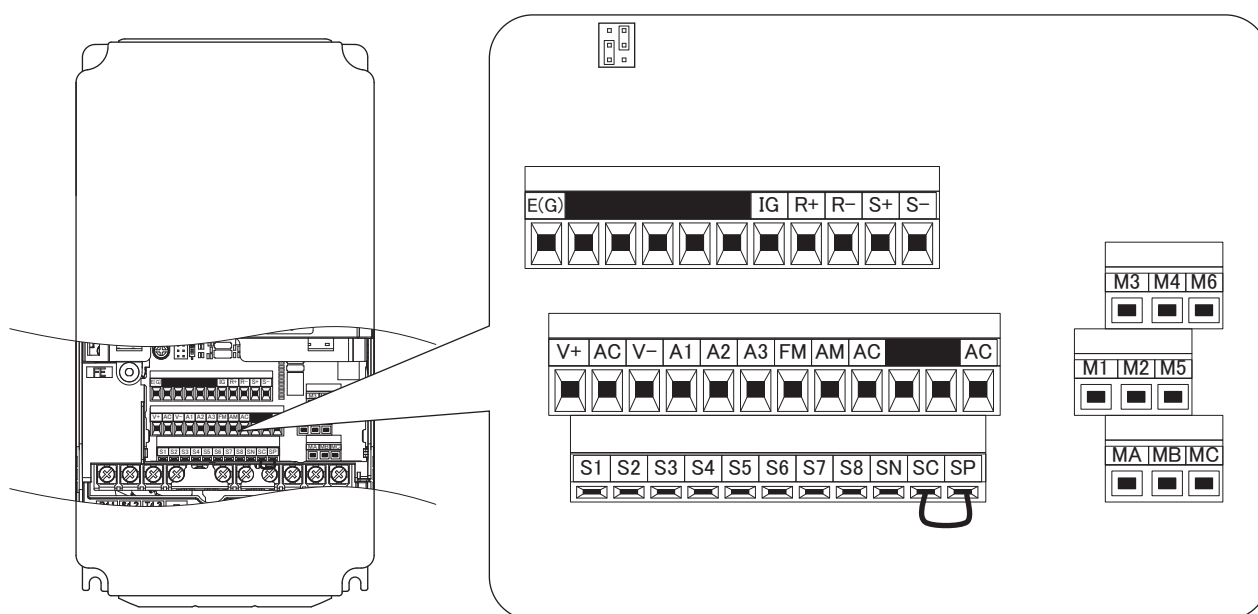

Figure C.9 Terminal Connections for Communication Self-Diagnostics
4. With the power off, wire the converter as shown in **Figure C.9**, connecting terminals R+ and S+, R- and S-, and S6 and SC.